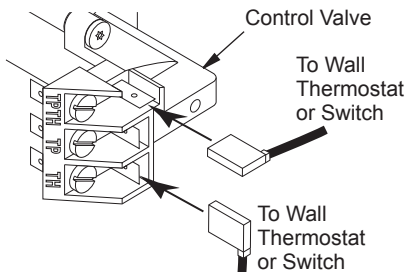

Figure 30 - Connecting Wire Terminals
2. Connect one terminal of 25 ft. wire to the “TH” terminal on the control valve. Connect the other terminal to the “THTP” terminal on the control valve. See Figure 30, page 20.
2. Connect one terminal of 25 ft. wire to the "TH" terminal on the control valve. Connect the other terminal to the "THTP" terminal on the control valve. See Figure 30.